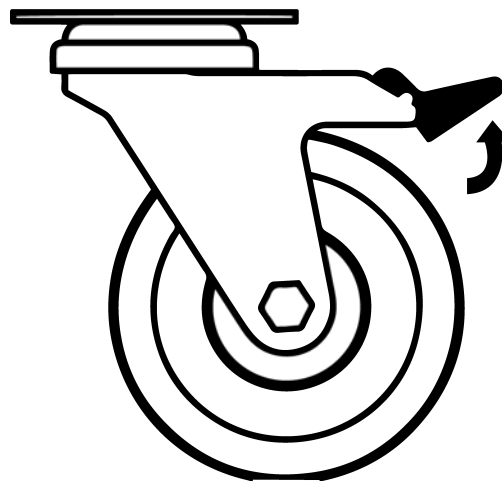

Fig 2. Castor Unlocked
- Ensure when placing the large capacity drying oven into place that the castors can be accessed so they can be locked (**Fig 3**) and unlocked (**Fig 2**). Please contact your supplier or Thermoline should there be any damage to the castors.